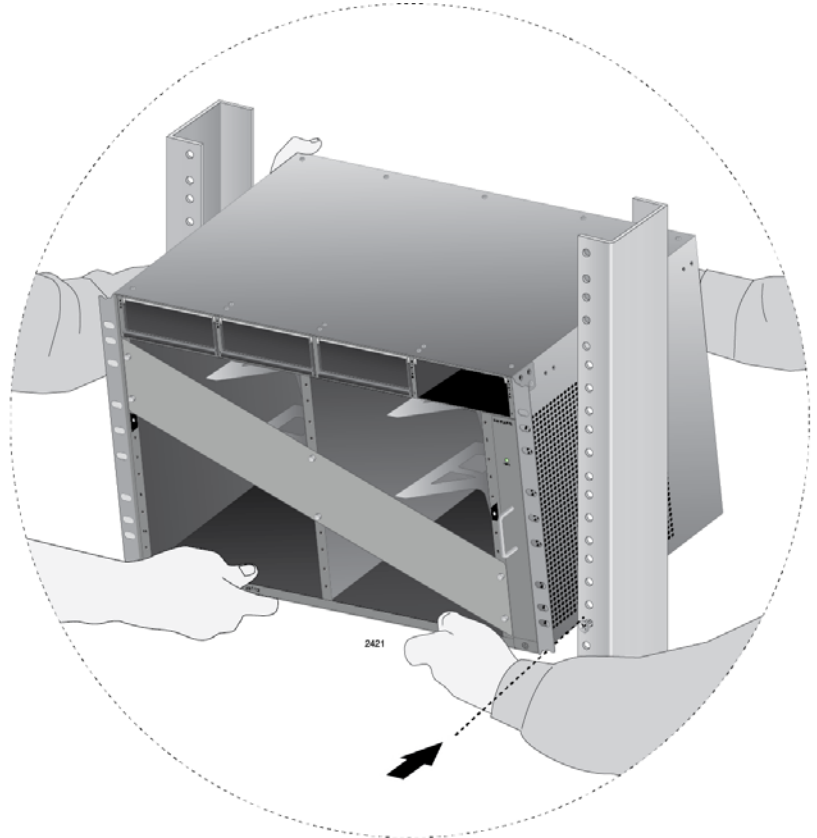

Figure 31. Lifting the AT-SBx8112 Chassis into the Equipment Rack
2. Do not mount any other equipment within 152.4 mm (6") above this space during installation. This additional vertical space is temporary and allows you enough room to lift and tilt the chassis into its position in the equipment rack without hitting other equipment, as shown in Figure 31 on page 91. You may use this additional space for other network equipment after the chassis is installed.
1. While facing the front of the chassis, tilt the top of the chassis toward you, as shown in Figure 31 on page 91.
2. Lift the AT-SBx8112 Chassis into the equipment rack and set the bottom of the equipment rack brackets firmly on the two equipment rack screws you installed in “Preparing the Equipment Rack” on page 83, as shown in Figure 31.